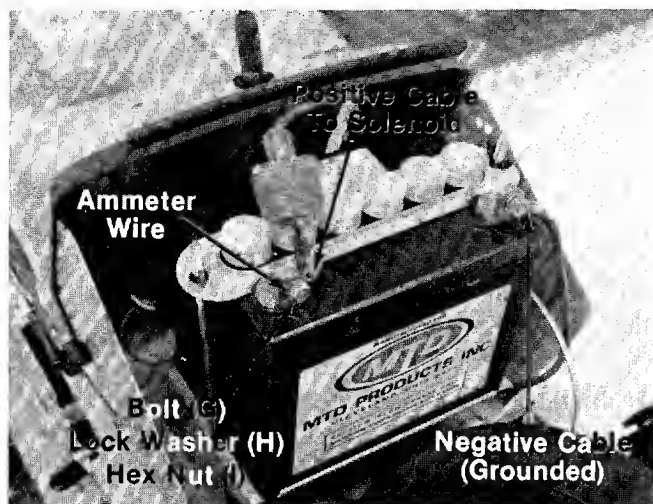

FIGURE 8.
- D. Attach the free end of the positive cable and the small wire from the ammeter to the positive battery terminal with bolt (G), washer (H) and nut (I). The battery terminal is marked +.
- E. Attach the free end of the negative cable to the negative terminal with bolt (E), washer (F) and nut (G). Battery terminal is marked "–". See figure 8.